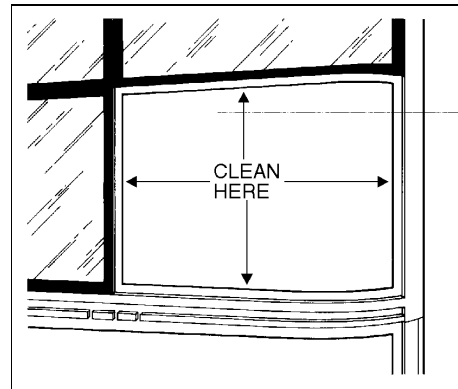

FIGURE 57: WINDSHIELD
- Clean the windshield opening sealing surfaces with isopropyl alcohol and let dry 1 to 2 minutes. See figure 57.